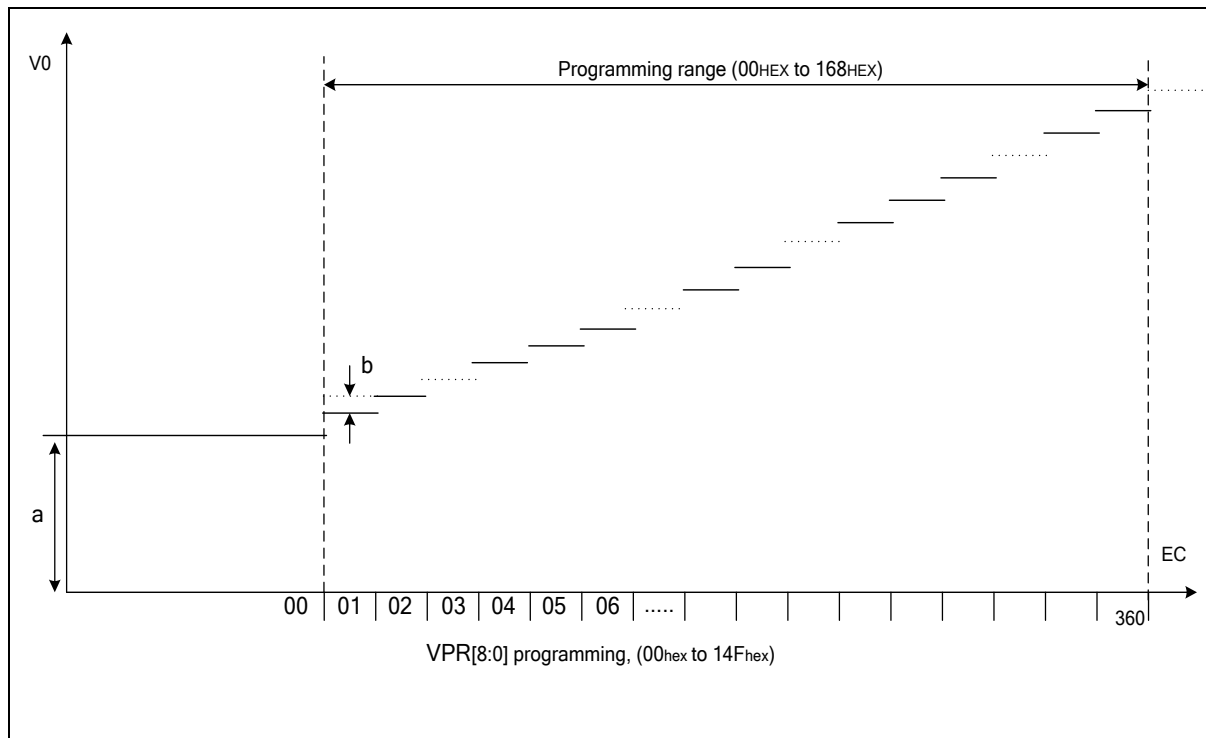

Figure 34 V0 programming range
The VPR[8:0] value must be in the V_0 programming range as given in **Figure 34** Evaluating equation (1).